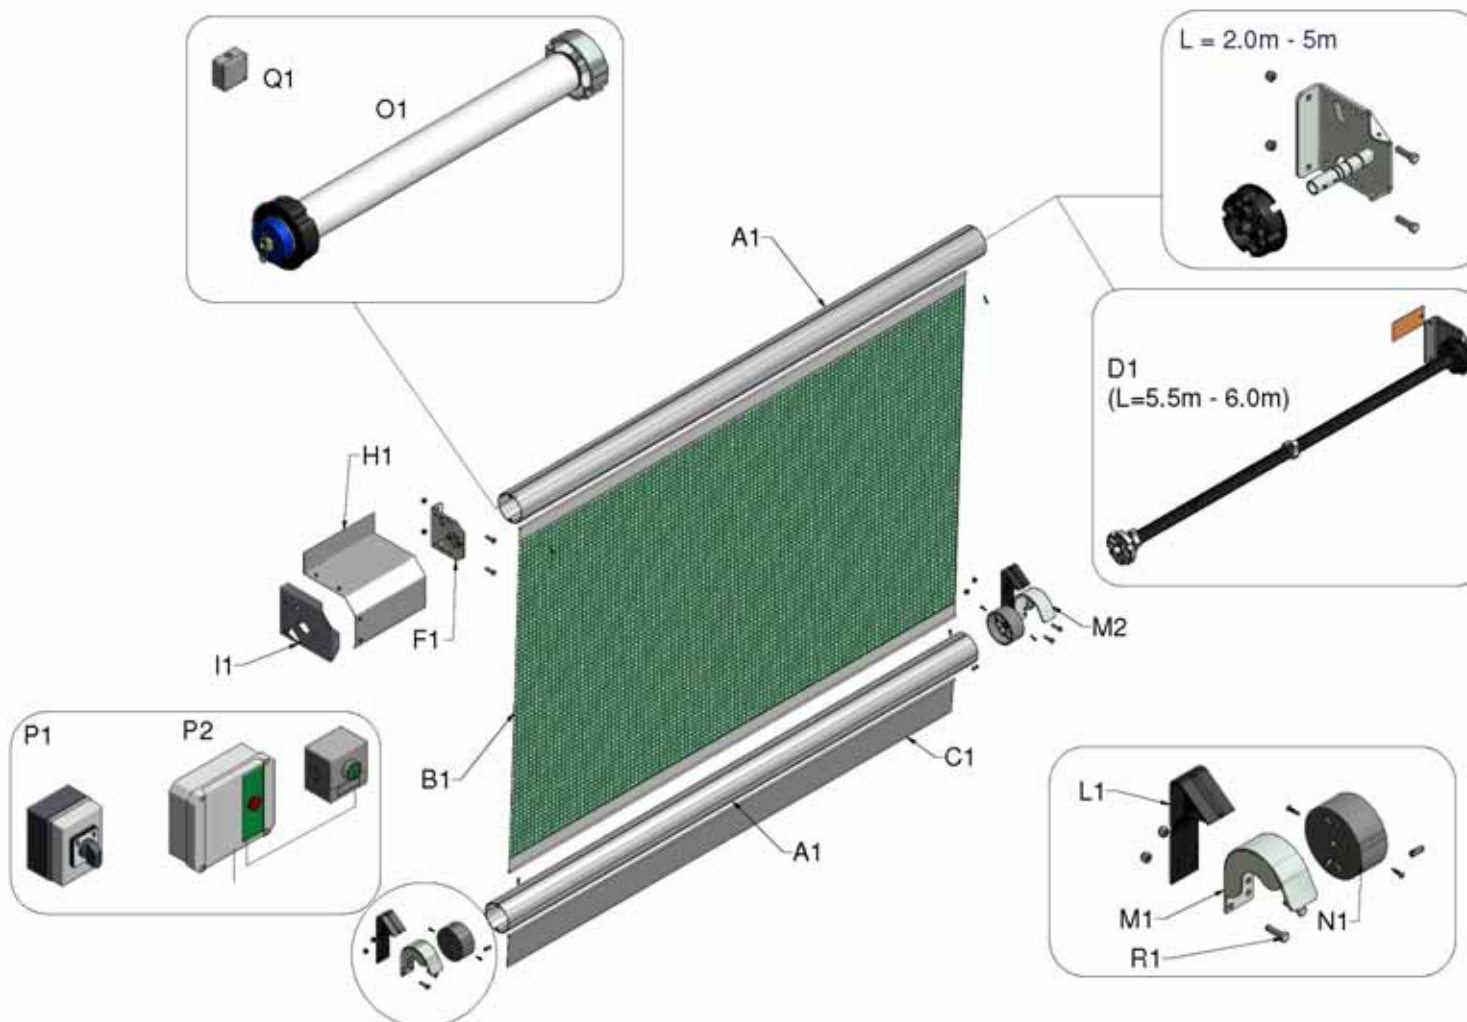

Figure 1, System Overview and Individual Components
1. Check the contents of your door against the parts list using Figure 1. Do not let the screen material come into contact with any sharp objects or edges. The motor can be mounted on either side of the top tube, for convenience the drawings depict a door with the motor mounted on the left (Drive End = Left Hand Side).